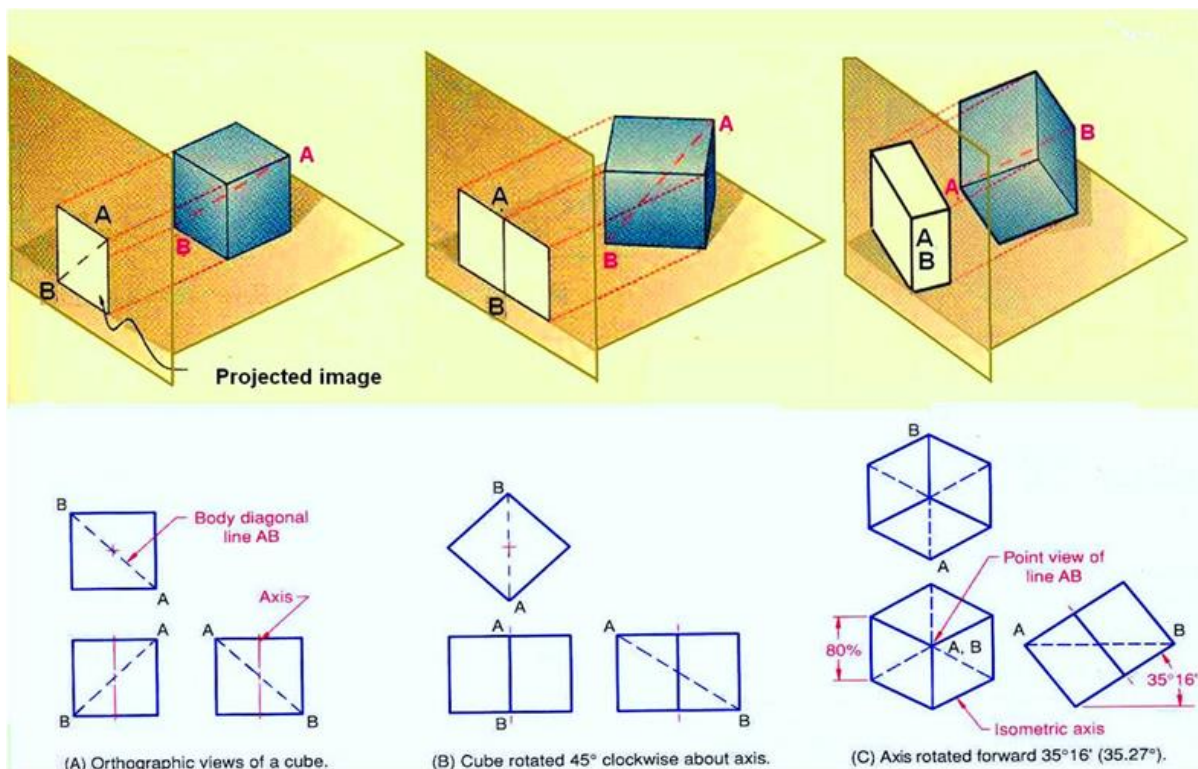

Figure 3. Rotation of the object with respect to the projection plane result in isometric projection.
An isometric projection is a true representation of the isometric view of an object. An isometric view of an object is created by rotating the object 45° about a vertical axis, then tilting the object (see figure 3, in this case, a cube) forward until the body diagonal (AB) appears as a point in the front view. The angle the cube is tilted forward is $35^\circ 16'$. The 3 axes that meet at A, B form equal angles of 120° and are called the isometric axes. Each edge of the cube is parallel to one of the isometric axes. Line parallel to one of the legs of the isometric axis is an isometric line. Planes of the cube faces & all planes parallel to them are isometric planes